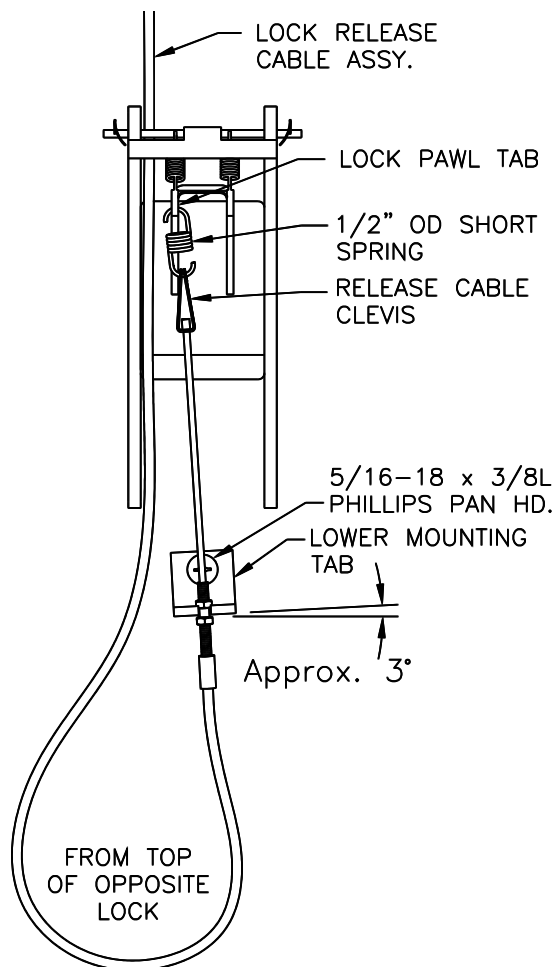

Fig. 18b-Lock Release – Idler Side
- 53) Attach the Lower Mounting Tab to the idler column using the 5/16-18 x 3/8 long Phillips pan head screw. Rotate slightly to be in-line with connection to lock pawl as shown in **Fig. 18b**.
- 54) Hook the 1/2" O.D. (short) spring to the left side of the Lock Pawl Tab, collapse the clevis at the end of the lock release cable, and hook the clevis to the bottom of the 1/2" O.D. spring, **Fig. 18b**.